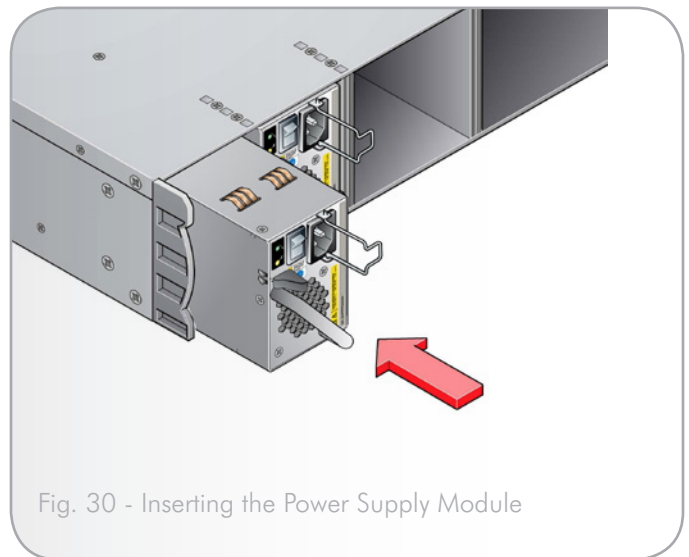

Fig. 30 - Inserting the Power Supply Module
2. Slide the module into the enclosure (Fig. 30).